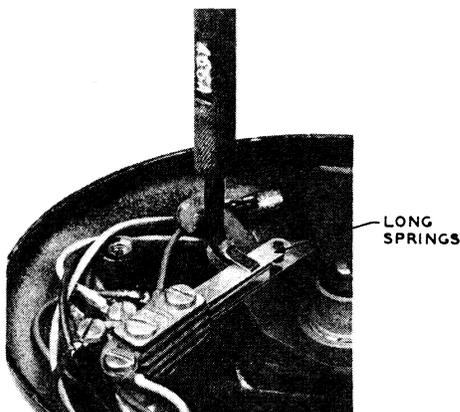

FIG. 4A — LONG SPRING CONTACT ADJUSTMENT
3.07 Contact springs should be adjusted with a 466A tool. When adjusting long springs, move the 466A tool along spring, bowing slightly to increase or decrease tension. Be careful not to injure contacts. (See Fig. 4A.)